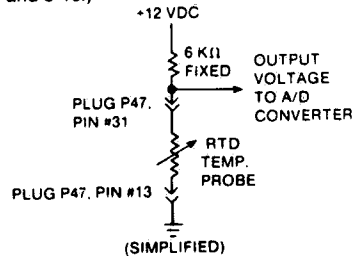

Figure 3-15. TEMPERATURE PROBE SCHEMATIC.
**Temperature and pressure input circuits:** Temperature is sensed by a **resistive temperature probe**. The probe degree has a resistance of 100 ohms at 0 C, and increases about 0.39 ohms for every degree C that the temperature increases. By connecting the probe as part of a voltage divider circuit, an output voltage exactly related to temperature is obtained. (Figures 3-15 and 3-16.)